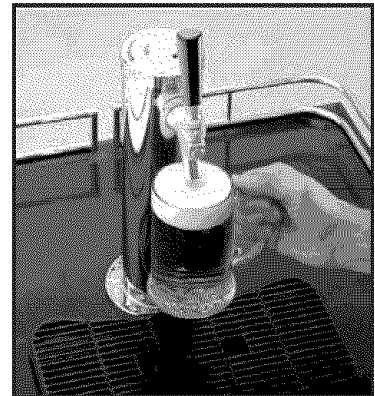

Fig. 15
4. Level the glass and finish topping off by continuing the pour in the center of the glass. (as shown in **Fig. 15**)